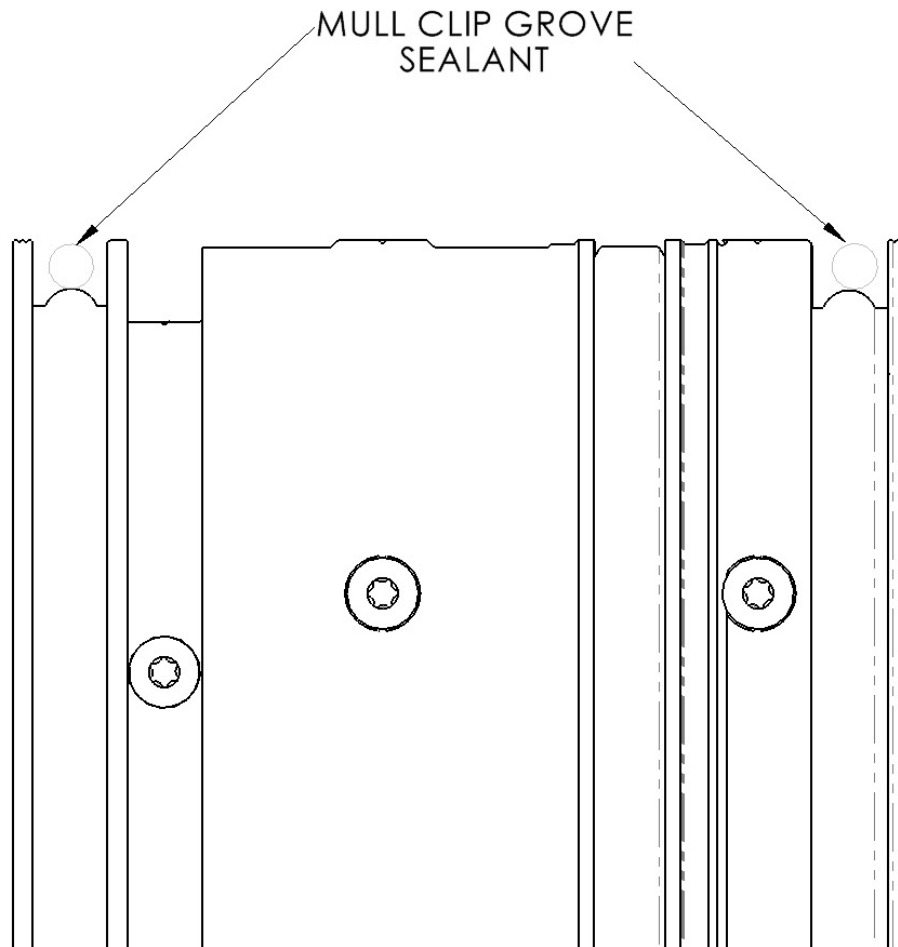

Figure 3
1. Apply a 1/8" diameter bead of Dow 795 sealant or equivalent sealant in each mull clip groove. (See Figure 3).